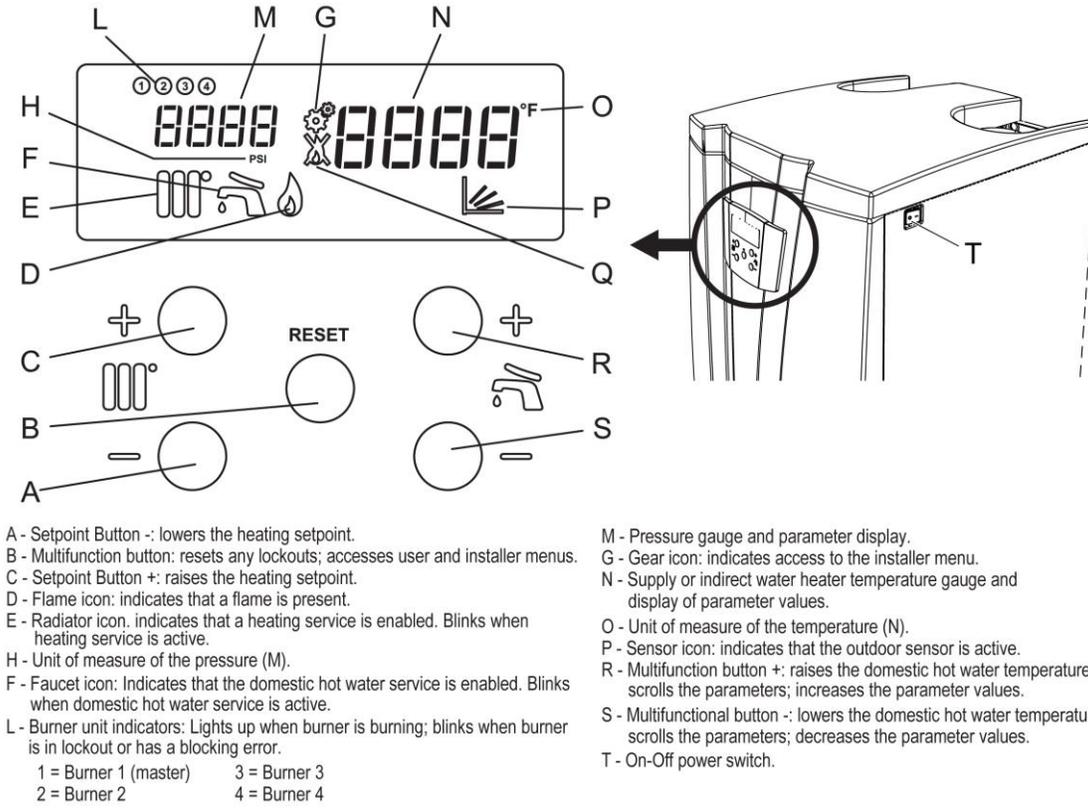

Figure 8-1: AM Series Control Panel Functions and Indicators
2. Open the fill valve and proceed to fill the heating system and boiler until the pressure gauge, item "M" in Figure 8-1, reads the pressure for which the heating system is sized. To temporarily decrease the minimum water pressure, set parameter 3022 to the desired value (See Appendix B).
2. Turn the unit power switch to ON (item “T” in Figure 8-1).
2. Turn the unit power switch to ON (Figure 8-1).
If the pressure inside the heating circuit falls below the minimum pressure for the system, the appliance switches off and the display shows Err 59 to indicate that it is necessary to restore the correct pressure. Open the filling valve and check the pressure on the pressure gauge “M” of Figure 8-1. Err 59 will disappear when the pressure is back at the right value. To prevent accidental relief valve openings, fill the heating circuit slowly.